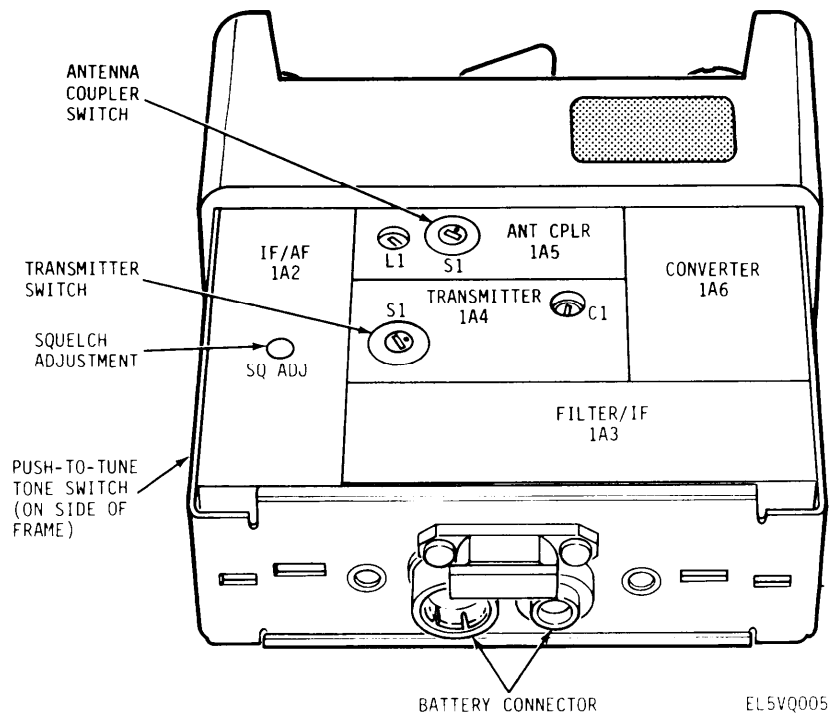

Figure 2-1. Radio set component locations, front view.
- (3) Set the transmitter switch and antenna coupler switch (fig. 2-1) with the enclosed alignment tool to the same position as switch A on the synthesizer module.
- (4) Connect battery.
b. *Alignment.* After the frequency of the radio set has been changed, perform the following procedures for radio set alignment (fig. 2-1 ):
- (1) Install antenna (either short or long).
- (2) Set CHAN switch to 5.
- (3) Preset C1 on the transmitter module fully clockwise (use enclosed alignment tool of JFD 5284).
- (4) Set PWR OFF/ON/SQUELCH DIS switch to ON.
- (5) Press push-to-tune switch (on side of radio set) and adjust VOL control for comfortable level.
- (6) Using the alignment tool, adjust C1 on the transmitter module counterclockwise for the lowest tone.
- (7) Release push-to-tune switch.
- (8) The antenna coupler adjustment (L1) must be made using Test Set TS-3354/PRC-68 (test set),